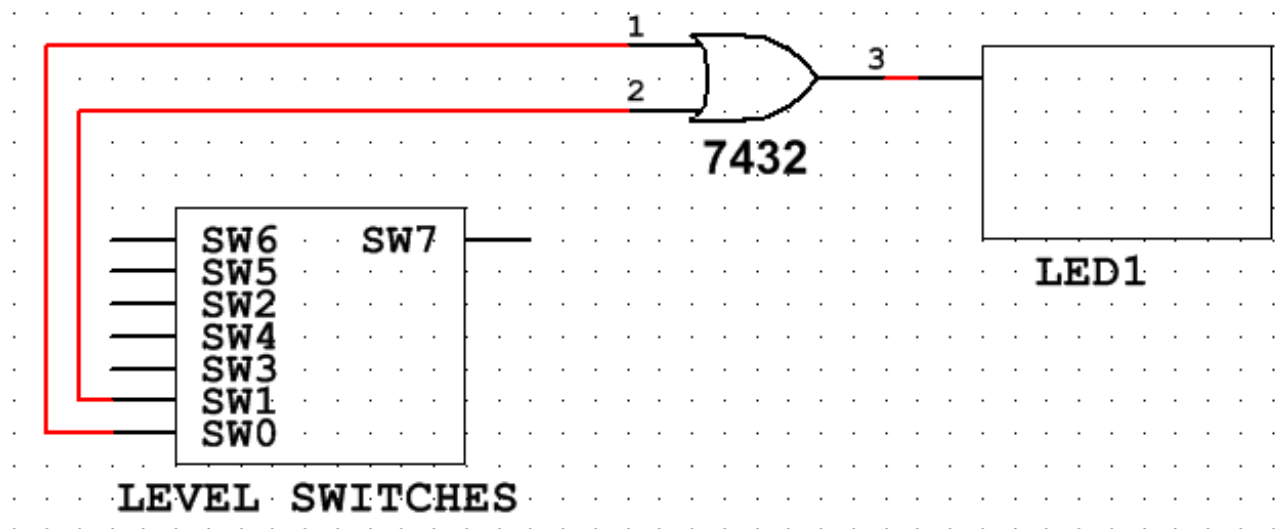

Figure 3
2.1. Turn off the trainer. Build the circuit in the logic diagram (Figure 3) using the 7432 chip and the trainer. Reference the datasheet to determine pinout of 7432 chip. Vcc for all the TTL chips will use the +5V power supply.